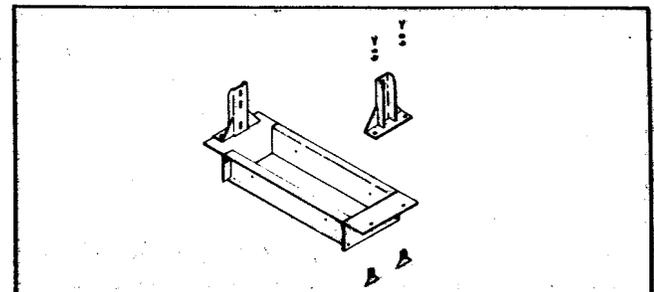

Fig. 18d
- (4) Attach the concrete inserts and support legs to the mounting ring with the 1/2 x 1 inch bolts provided. (See Fig. 18d.)